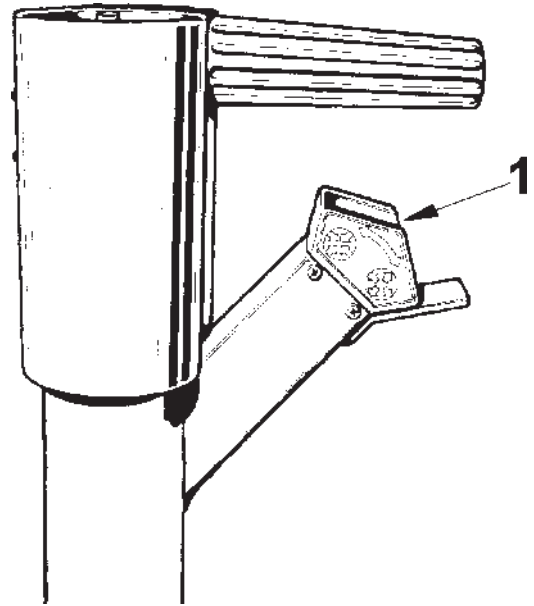

Fig. 10
H. To open and close the chuck, operate the chuck switch (Fig.10).